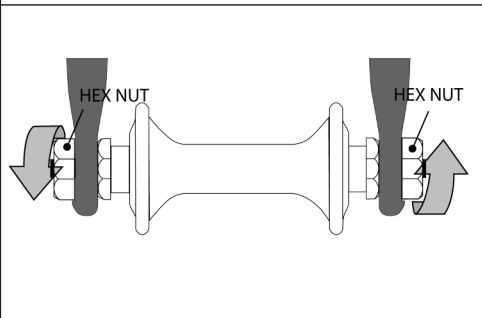

FIGURE 10
- Hex nuts or hex key bolts which are threaded on to or into the hub axle (bolt-on wheel, fig. 10)